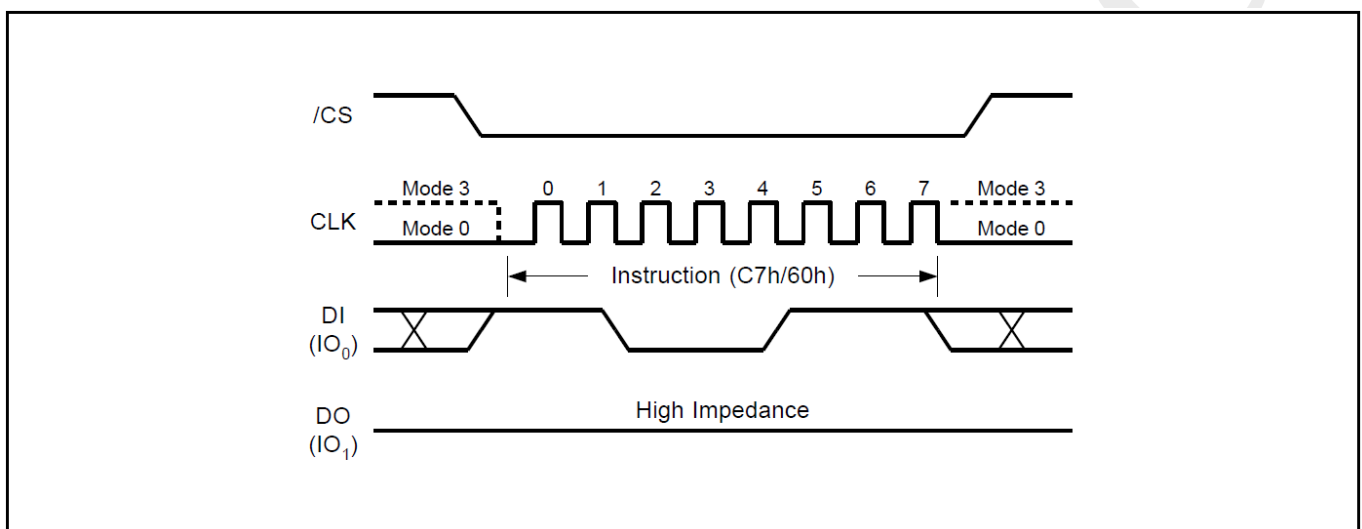

Figure19. Chip Erase Sequence Diagram
The Deep Power-Down Mode automatically stops at Power-Down, and the device always in the Standby Mode after Power-Up. The Deep Power-Down command sequence: CS# goes low → sending Deep Power-Down command → CS# goes high. The command sequence is shown in Figure19. CS# must be driven high after the eighth bit of the command code has been latched in; otherwise the Deep Power-Down (DP) command is not executed. As soon as CS# is driven high, it requires a delay of tDP before the supply current is reduced to ICC2 and the Deep Power-Down Mode is entered. Any Deep Power-Down (DP) command, while an Erase, Program or Write cycle is in progress, is rejected without having any effects on the cycle that is in progress.